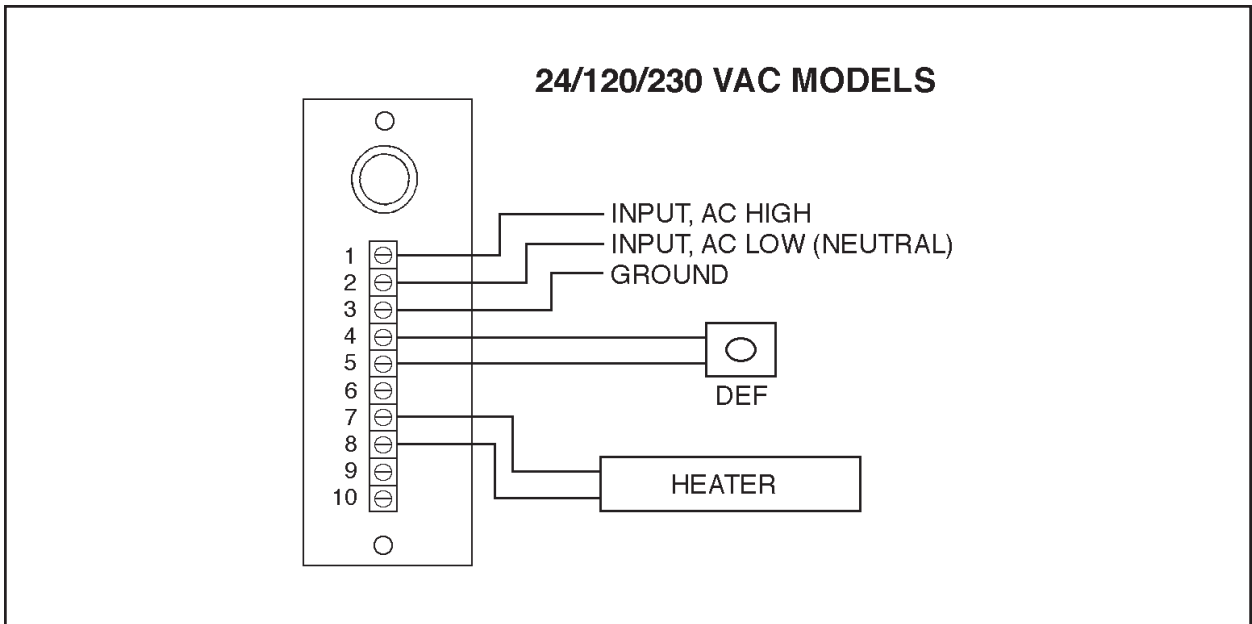

Figure 2. WD35 Series Window Defroster Wiring Diagram
8. Route the defroster wires between the track rail and the body of the enclosure. Attach the window defroster wires to the PCB terminal locations as shown in Figure 2. Make sure the window defroster wires are not obstructing any other accessories within the enclosure.